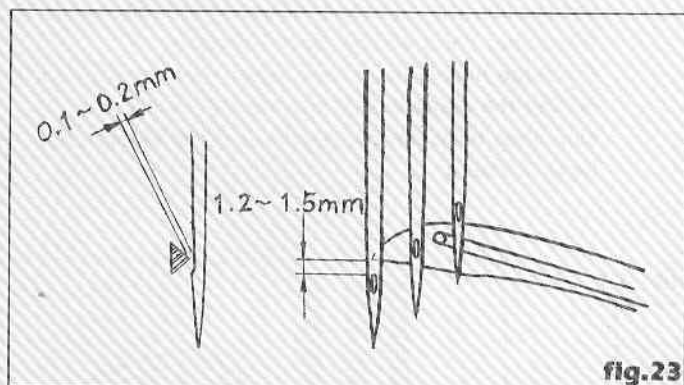

fig.23
- * When the left needle goes down and its point is flush with the looper blade, the length between the center of the looper eye and the centerline of the extreme left needle should be 5.0 to 6.0mm. (fig 23)